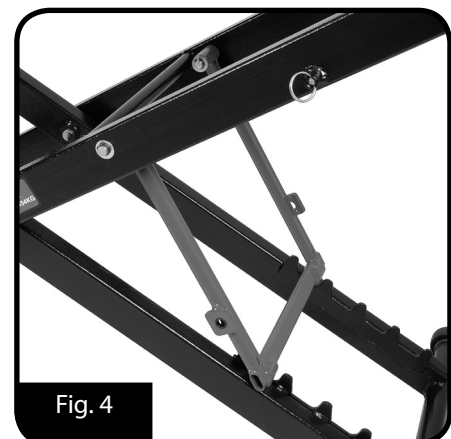

Fig. 4
When using the motorcycle lifter, always ensure the safety support bar is lowered and sitting on the safety dogs (Fig. 4)
2. After lifting, safety support bar must be used to control the lifting height to prevent unintentional lowering. (See Fig.4)